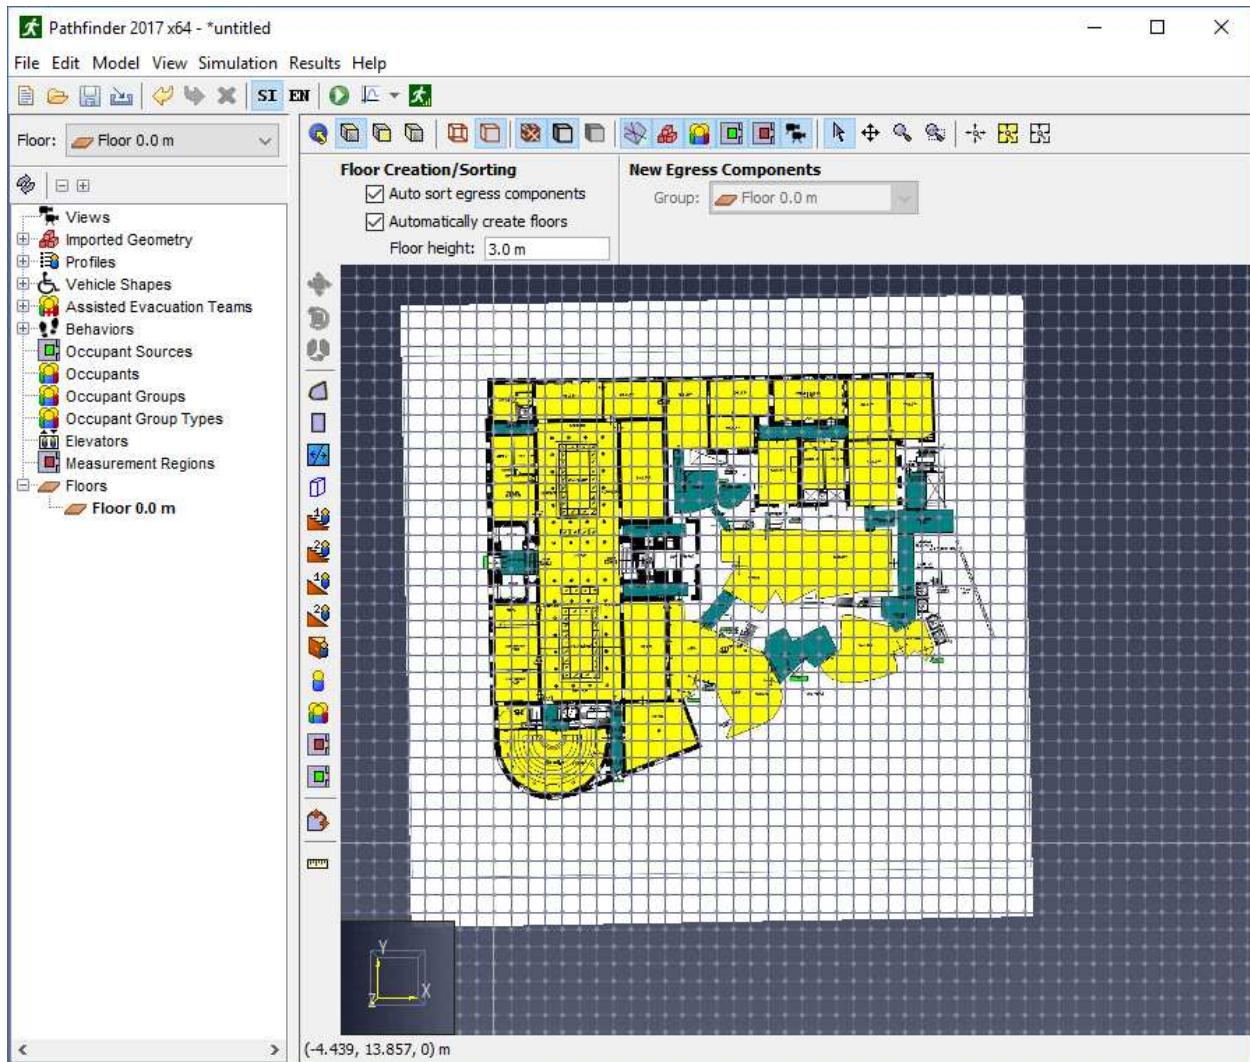

Figure 80. Background image added to the model.
5. Click **OK** and the image will be placed in the model as specified (Figure 80).